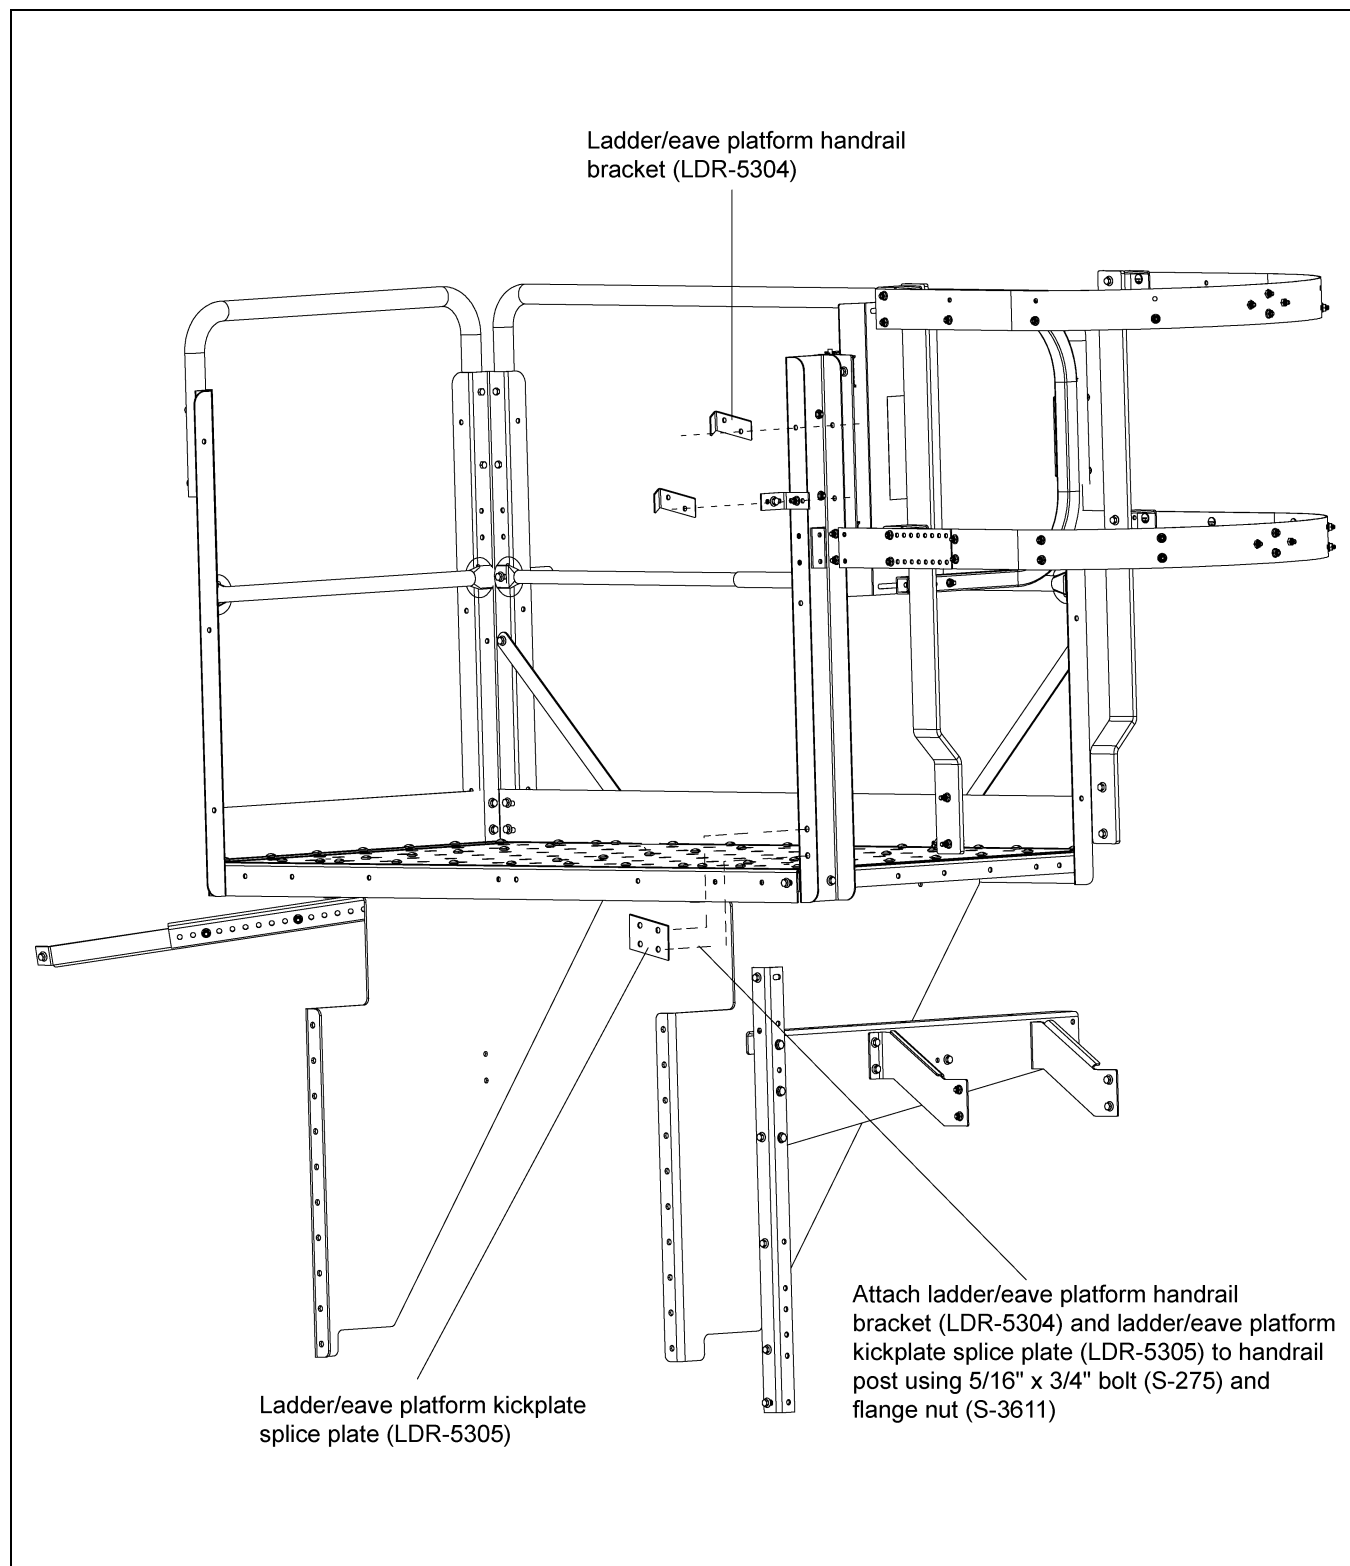
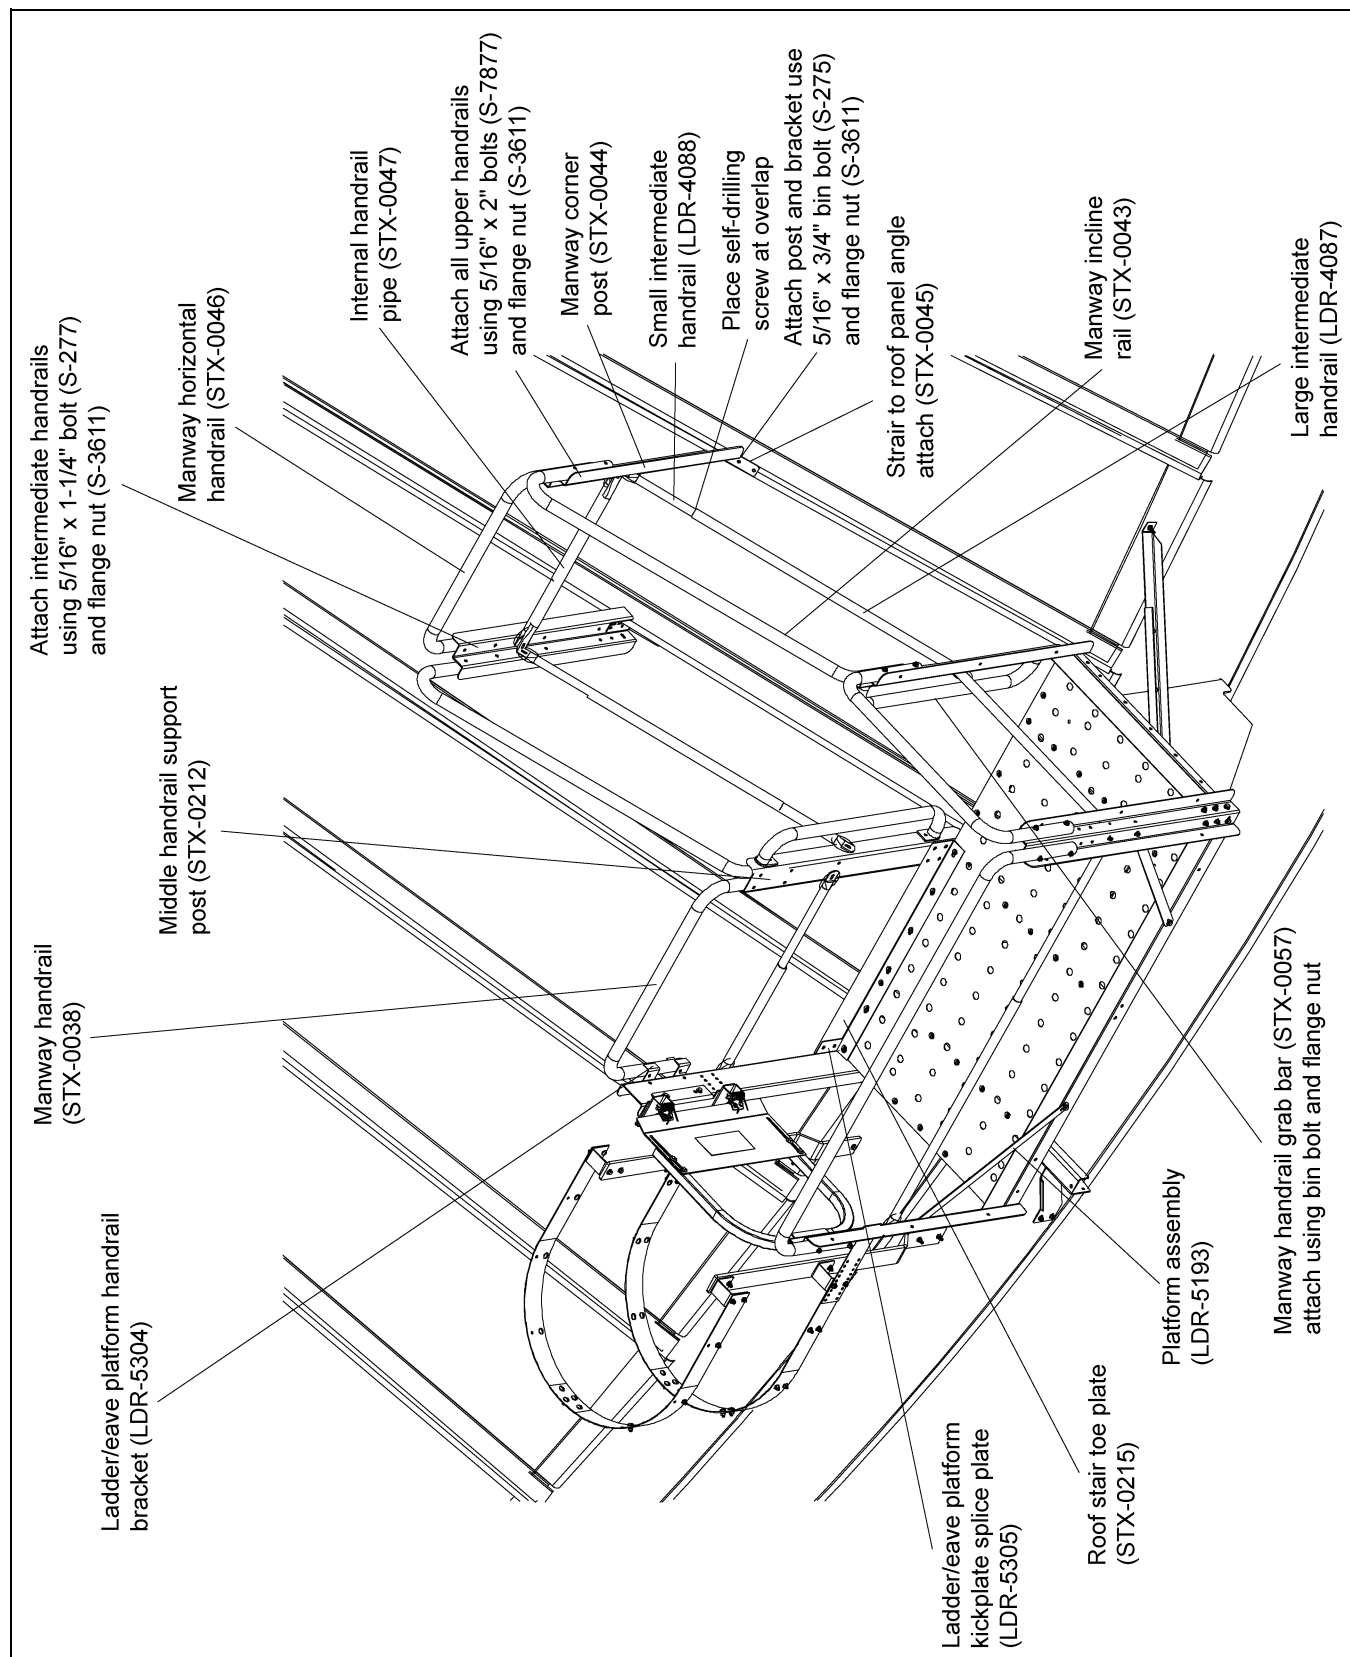

Figure 4K
Figure 4L
1. Attach ladder/eave platform handrail bracket (LDR-5304) and ladder/eave platform kickplate splice plate (LDR-5305) to eave handrail post (STX-0076) using 5/16" hardware. LDR-5207 will not be used in this package. *(See Figure 4K below and Figure 4L on Page 24.)*